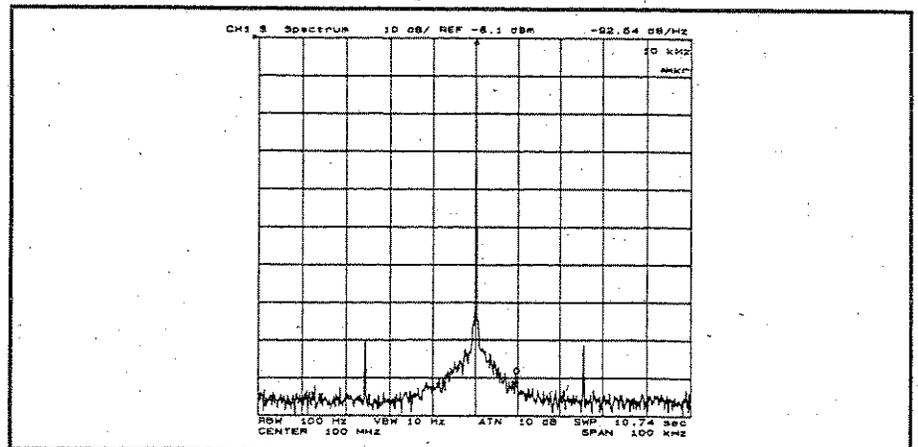

Figure 3-4.
5. Press **Utility** **NOISE FORM** on **OFF** to **ON off**. The analyzer displays the C/N ratio with the unit of "dB/Hz" at the upper right of the display as shown in Figure 3-4.